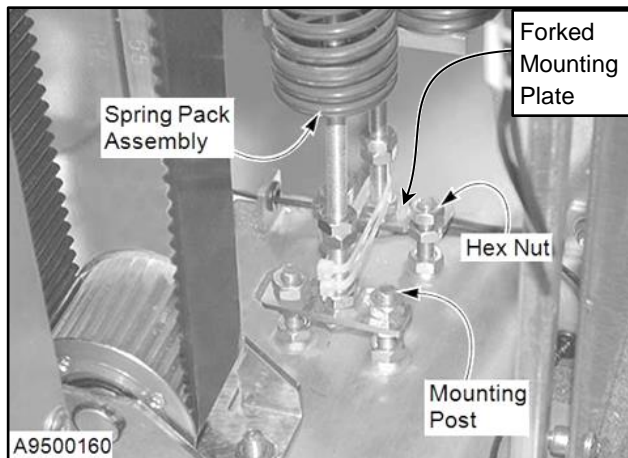

Figure 76
5. Disconnect the associated spring pack assembly from the base plate. To retain the preload setting of the spring pack, loosen only the lower hex nut on each mounting post. (See Figure 76)